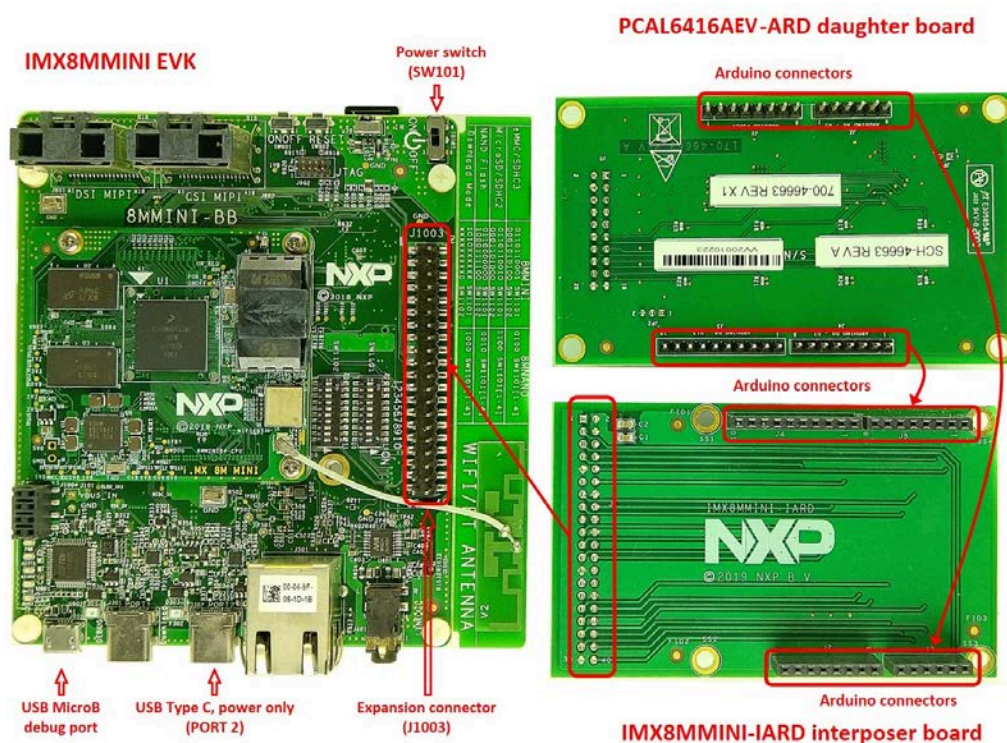
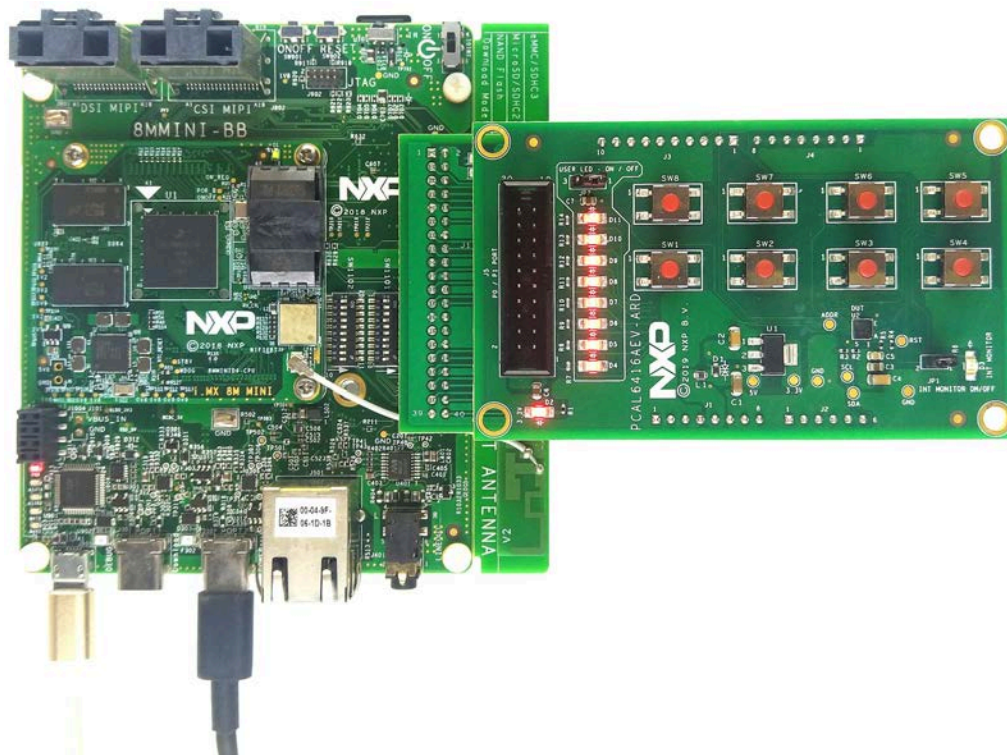

Figure 8. The assembly PCAL6416AEV-ARD daughter board, IMX8MMINI-IARD interposer board, and i.MX 8M Mini LPDDR4 EVK, before starting
Figure 9. PCAL6416AEV-ARD daughter board / i.MX 8M Mini LPDDR4 EVK board operation
To operate the setup, along with the EVK and the daughter board, a third board must be included in the setup assembly. Figure 8 shows the necessary boards and how these boards are connected. The configuration consists of:
To power-up the EVK, a USB-C type cable connected to PORT 2 of the EVK is used. The power switch SW101 on the EVK board must be set to ON position to power-up the setup. Data communication is achieved by routing a separate USB (Micro-B type) cable from an USB port on the PC to debug port (J901) on the EVK (see Figure 8 and Figure 9).
2. Attach IMXMMINI-IARD connector plug J1 (located on the bottom of the board) into J1003 expansion board located on the top side of i.MX 8M Mini LPDDR4 EVK (see Figure 8)